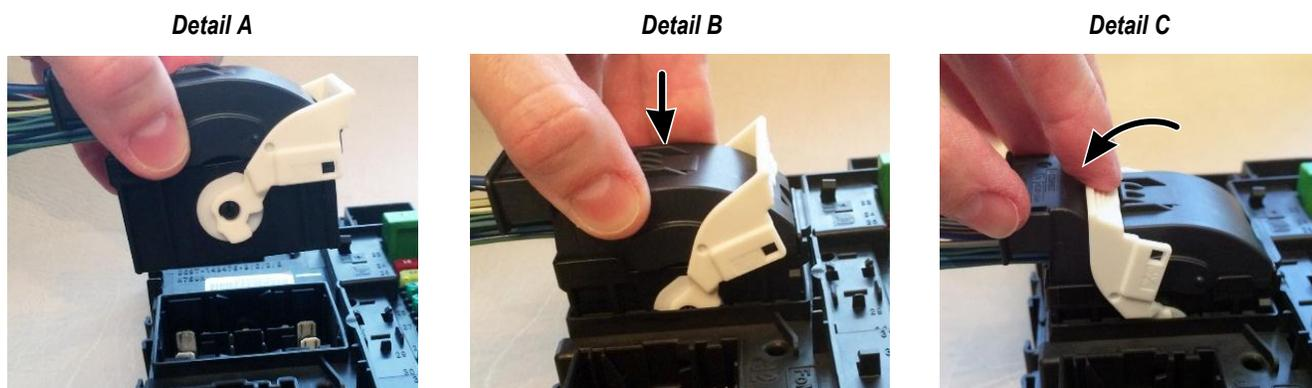

Figure 4
1. Ensure that the rotating locking lever of the plug is in the open (unlocked) (horizontal) position as shown in Figure 4, Detail A .
2. Align the mating face of the plug with the mating face of the interface assembly, ensuring that the keys are mutually oriented, then insert the plug into the interface assembly until it bottoms. The rotating locking lever will rotate approximately 15° as shown in Figure 4, Detail B. There will be an audible and tactile click. The plug rotating locking lever is now in the pre-locked position.
3. Move the rotating locking lever until it latches onto the lever locking latch of the wire dress cover. There will be an audible and tactile click. The plug rotating locking lever is now in the closed (locked) (vertical) position. See Figure 4, Detail C.